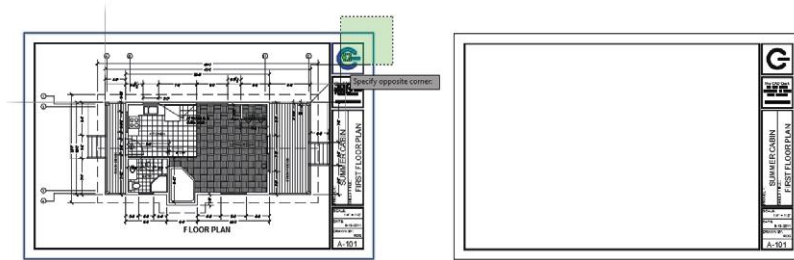

FIGURE 14.1: Selecting objects on the title block layers (left), and the resulting layer state (right)
4. Select the outer border of the title block, and a piece of text within the title block, as shown in the left image in Figure 14.1. Press \downarrow to accept the selection set.
Your drawing should show only objects on the A-ANNO-TTLB and A-ANNO-TTLB-TEXT layers, matching the right image in Figure 14.1.